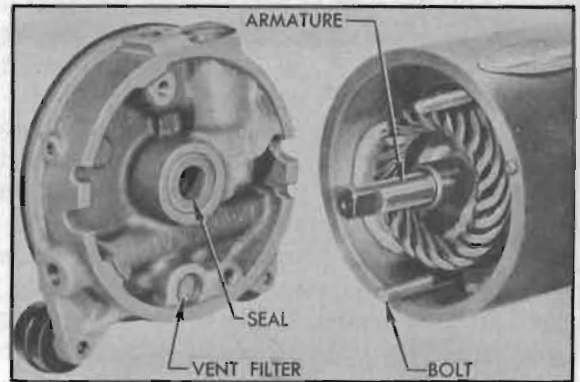

Figure 13-67—Pump Body Removed from Motor
7. Scribe a line on pump body and motor frame for reference at assembly, then remove the two through bolts and separate the pump body from motor frame. This will release the reservoir bail. See figure 13-67.
6. Inspect pump body for wear or abrasion in rotor cavity. Inspect condition of the armature shaft seal and the bronze vent filter located in upper side of pump body. See Figure 13-67. Replace body assembly if items mentioned are not in good condition, using body specified for type of pump (subpar. a).